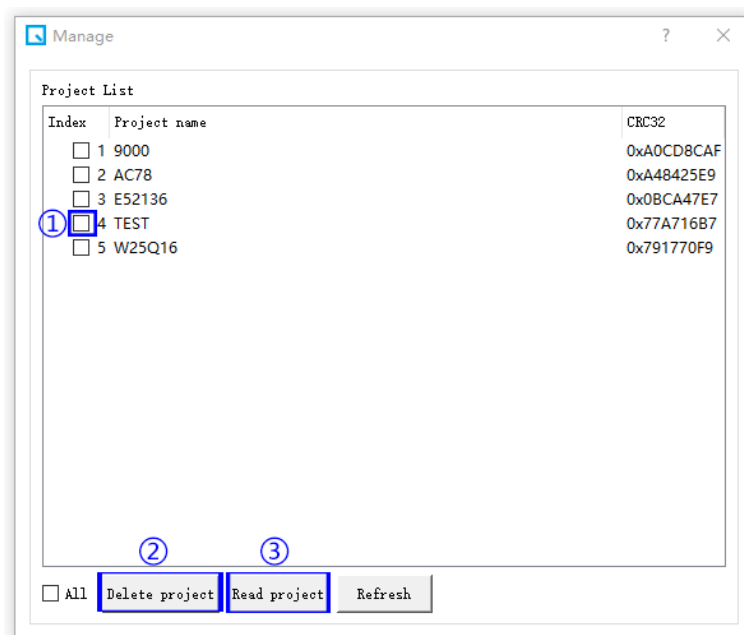

Figure 4.18: Project Management Interface
2)Pop up the project list window (as shown in Figure 4.18).
The list gives the names of projects in the current programmer, and it is needed to check the project first (as shown in Figure 4.18-①).
Then, click "Delete Project" to delete the checked project (as shown in Figure 4.18-②).
It is also allowed to click "Read Project" to read the checked project (as shown in Figure 4.18-③).